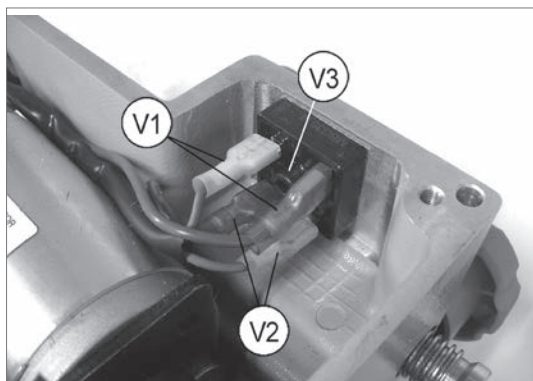

Fig. 38
- 2) Detach the 4 connectors (V1) and (V2) paying special attention to their position (Fig. 38).